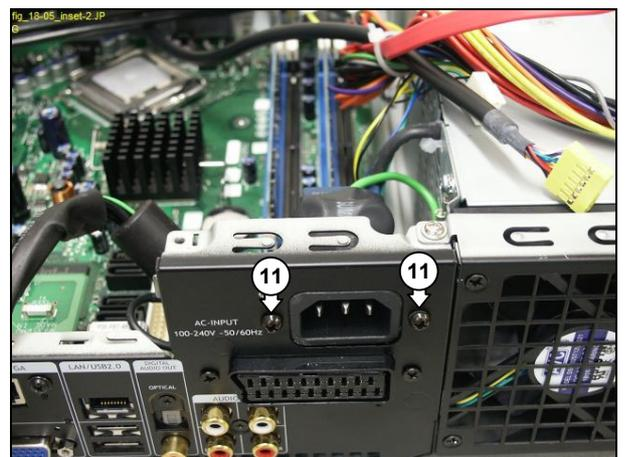

Figure 12.15-4
17. Remove the 2 mounting screws (11) from the AC input. See Figure 12.15-4.